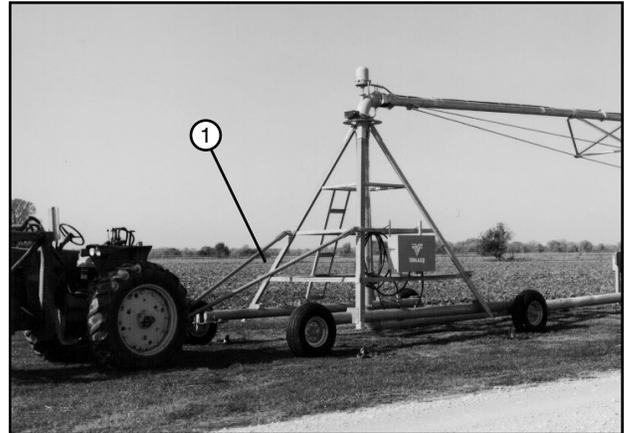

Figure 45-1 1. Tongue
12. Hook tongue to the towing unit. See figure 45-1.